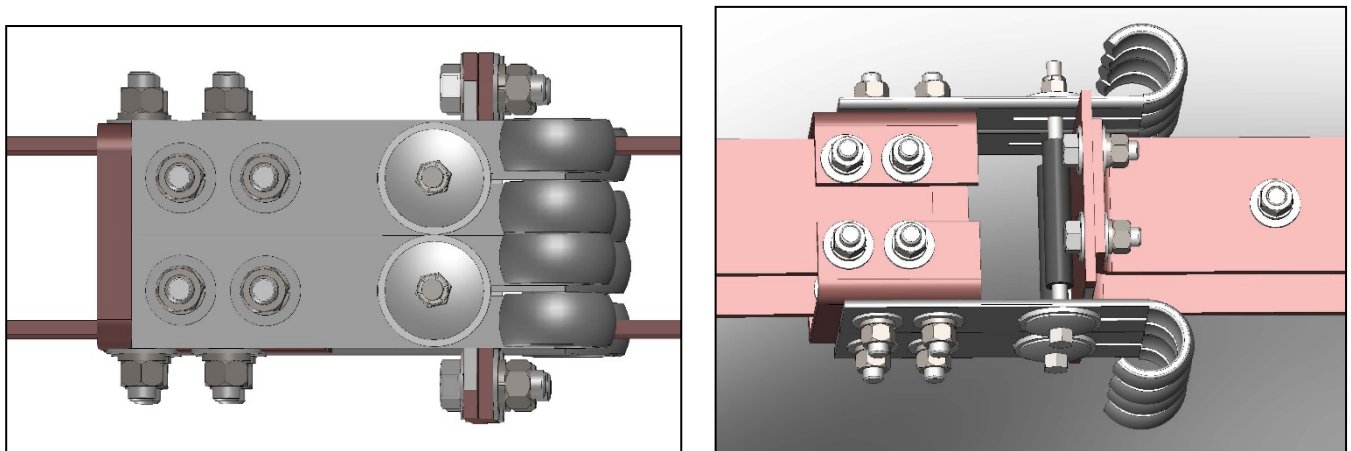

Figure 13: Switch - Fully Closed Position (Left: Side view, Right: Top view)
- 3.1. Start with the disconnect switch and operating mechanism in the closed position. Refer to **Figure 13**.